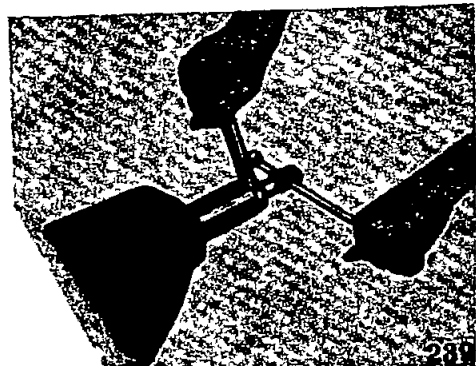

Fig. 14
- (2) Mount the front bearing outer race in the carrier.
For mounting the front outer race, take off at first the adaptor (A) from the front end of the carrier and fix the tool at the side of stud in opposite side, tighten the screw as to be the center of carrier as shown Fig.14 then mount it by using adaptor (C) as in a way of mounting the rear outer race.